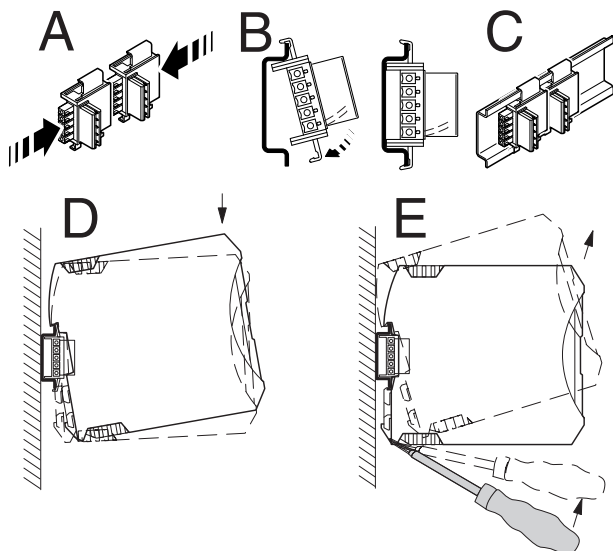

Figure 6 Mounting and removing
- When using the DIN rail connector, first insert it in the 35 mm DIN rail according to EN 60715 (see Figure 6, A - C). The DIN rail connector is used to bridge the power supply and communication.